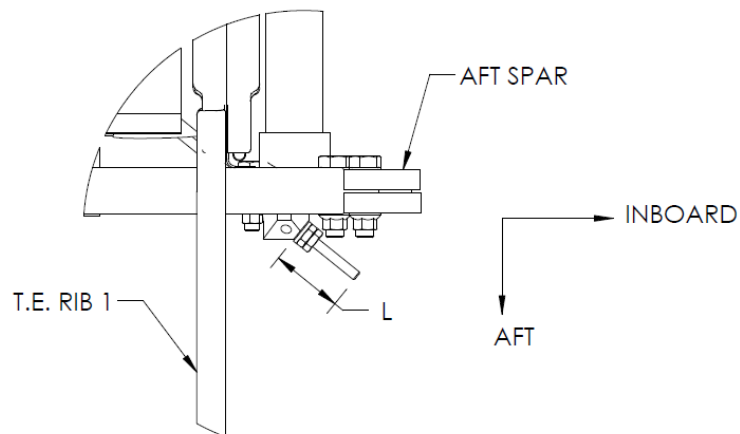

Figure 2 – Drag Wire Measurement
8. Match drill $\varnothing.098$ through each reinforcement into the spar web using a #40 drill and install (1) AN530-4R4.
9. Match drill $\varnothing.129$ through each reinforcement into the rib using a #30 drill and install (1) HDW-SS/SS42D
11. Measure the length of drag wires that protrude past the fitting on the outboard side. Figure 2 shows the aft drag wire with measurement 'L'. The forward drag wire is similar. Record measurements for later use: LH FWD wire _____, LH AFT wire _____, RH FWD wire _____, and RH AFT wire _____.